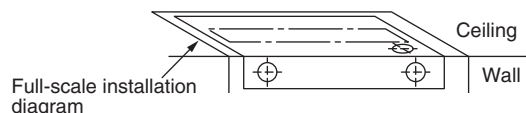

Fig. 3-5
- (1) Place the full-scale diagram (supplied) on the ceiling at the location where you want to install the indoor unit. Use a pencil to mark the drill holes (Fig. 3-5).